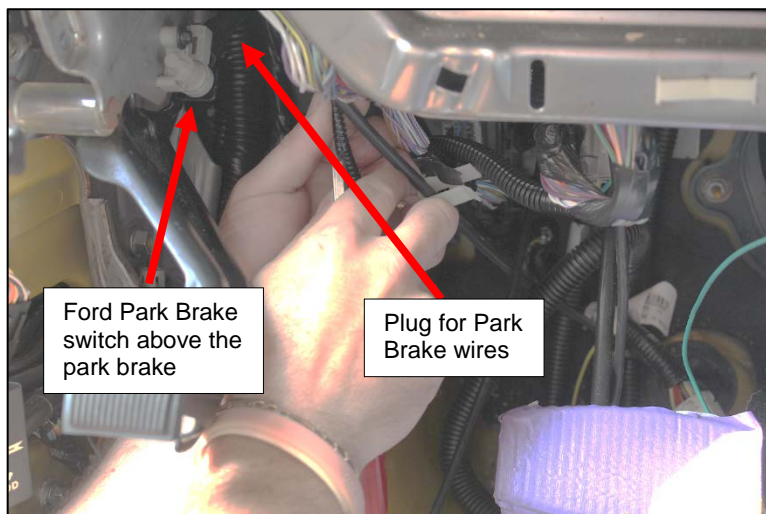

Figure 2: Park Brake Switch and Plug with Wires
2. At the parking brake wiring, see **Figure 2**, check for a harness already installed. If a harness is present, cut and cap off the two wires connected to park brake wire. Make sure the WC565 wire (yellow) remains accessible for connection to the new harness.